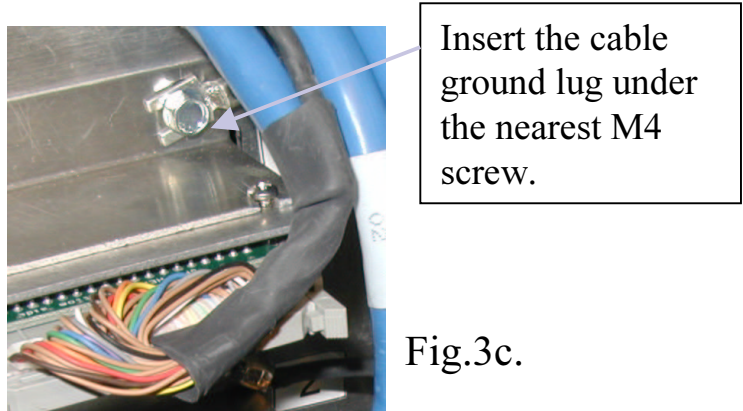

Fig.3c.
Step 1. Connect cable #1 to amplifier #1 (top position). Then continue connecting in order 2, 3, and 4, 5, 6. Every cable must go over the previous one as shown in Fig.3a. Insert the cable ground lug under the nearest M4 screw (Fig.3c).
Insert the cable ground lug under the nearest M4 screw for each cable as shown in picture (Fig.3c).